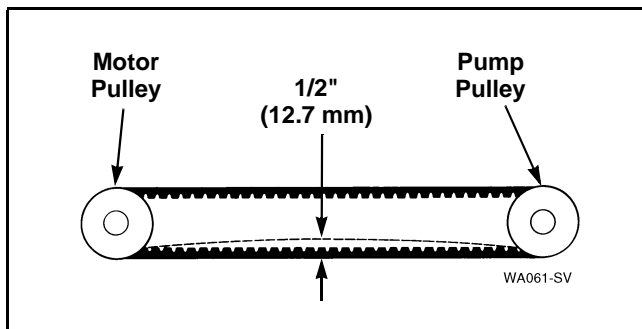

Figure 58
- Shift front of pump mounting bracket to the right or left to obtain proper belt tension. Proper tension is when belt can be deflected approximately 1/2 inch (12.7 mm) from its normal position by applying moderate pressure (1-1/2 pounds – .675 kg) to a point midway between pulleys. Refer to *Figure 58*.